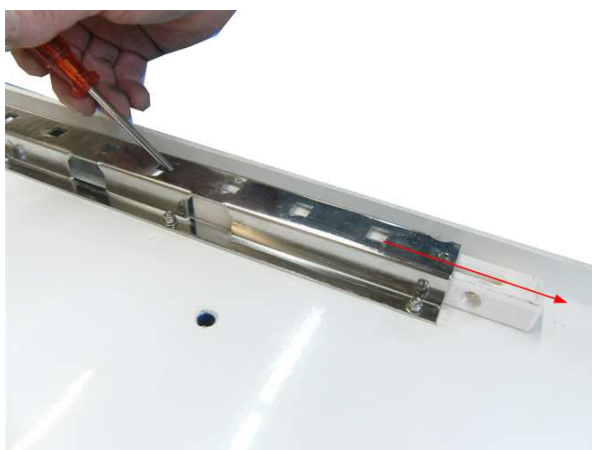

Figure 7 : Plastic part sliding out
- 6) Push out the plastic parts (see *Figure 7*).